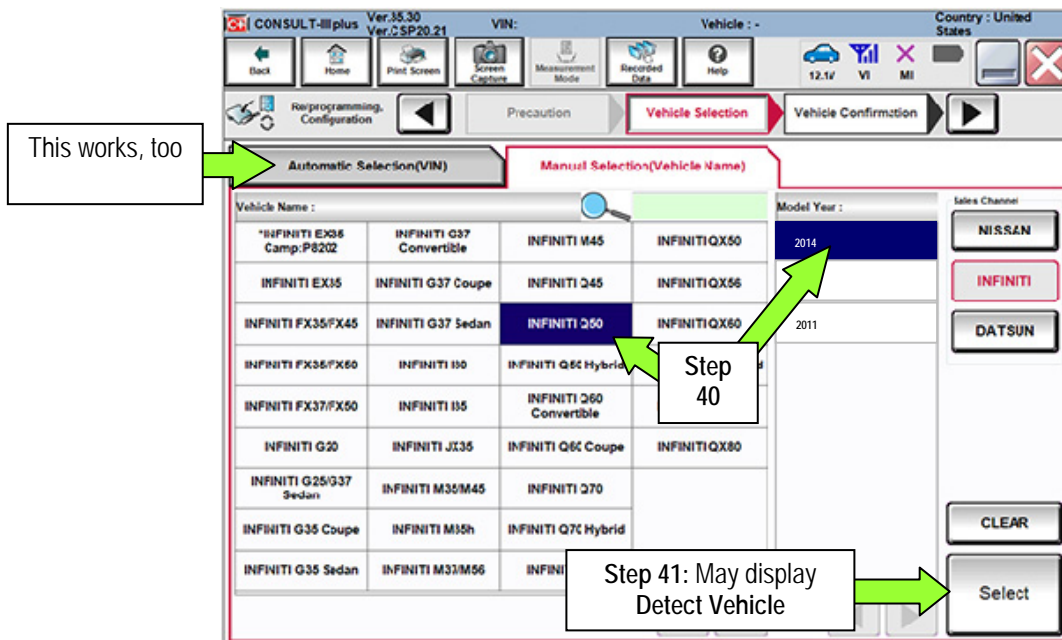

Figure 26
- If the screen in Figure 26 does not display, skip to step 42.